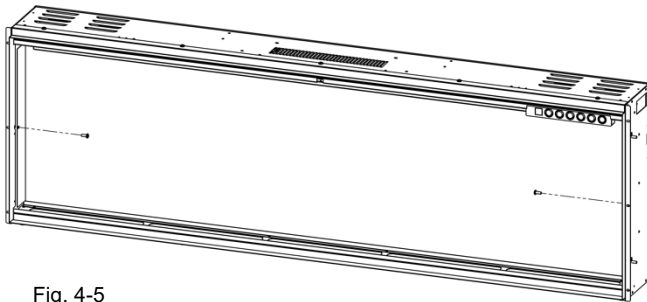
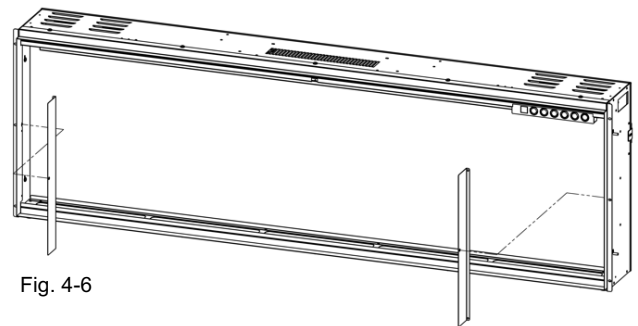

Fig. 4-5
Fig. 4-6
- Remove the two screws (one per side) from the inside of the appliance (Fig. 4-5) and remove the internal walls (Fig. 4-6). Set the screws/walls aside.